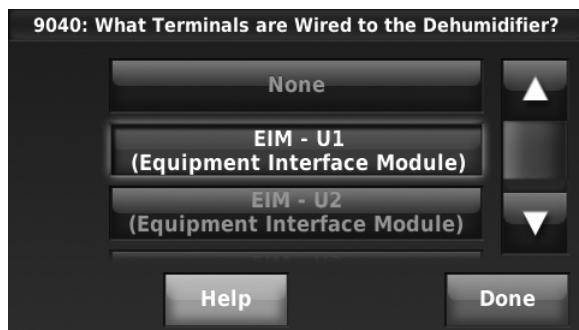

Fig. 140.
4. Select the terminals wired to the Dehumidifier. See Fig. 140.